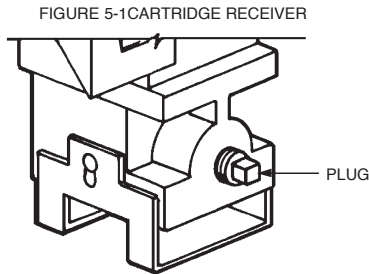

FIGURE 5-42
3. Remove the plug from cartridge receiver. See Figure 5-42.